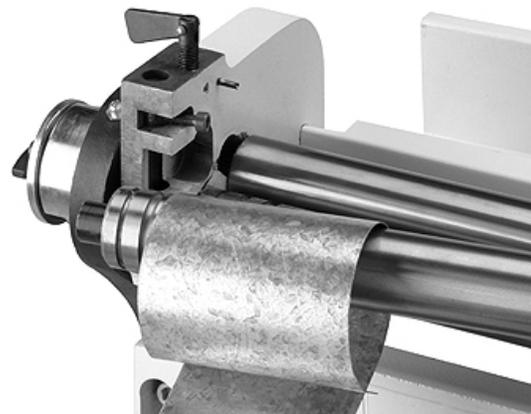

Figure 14-3
11. Turn the notched shaft and slip the upper roll cylinder out to remove the work piece (fig 14-3).